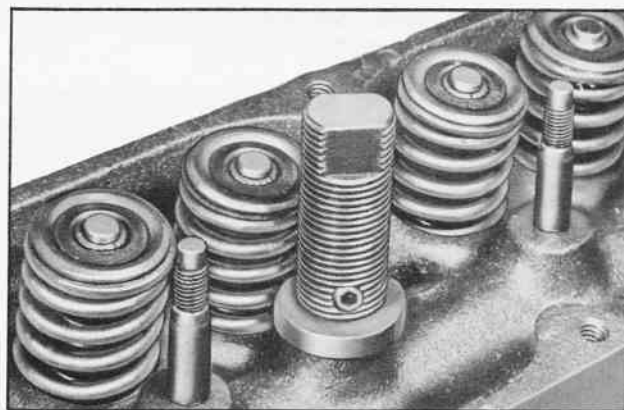

Fig. 4 J-6392-1 Installed Over Stud
4. Install J-6392-1 over stud aligning allen screws with slots and tighten screws securely with 5/32" allen wrench. (See Fig. 4).